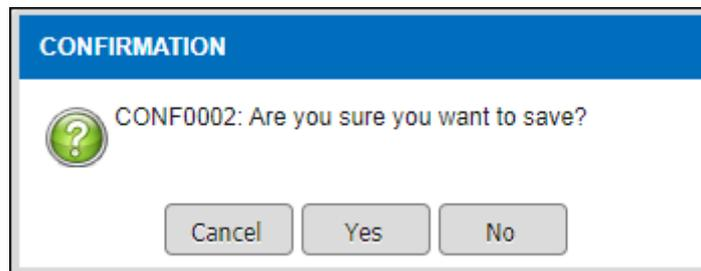

Figure 3.1.1-8 Save record
- Click on the  button in Figure 3.1.1-8.
- Click on the  button in Figure 3.1.1-9.